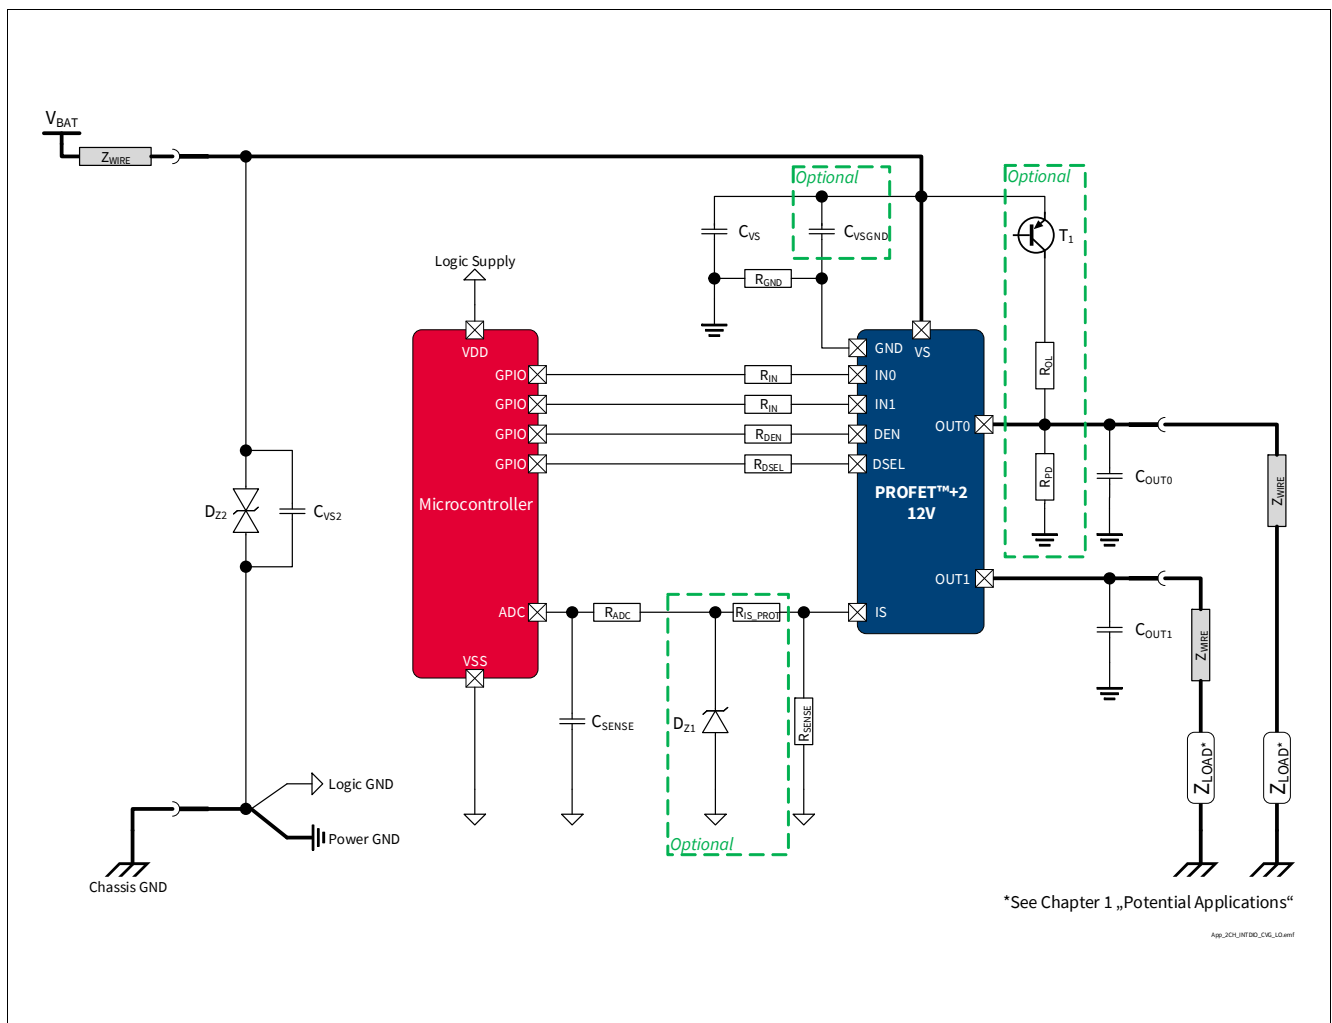

Figure 43 BTS7040-2EPA Application Diagram
1.05, 2019-10-15	P_8.7.6.1, P_8.7.6.7, P_8.7.6.8 updated (added in Note or Test Condition: link to Figure 25) P_8.7.6.6 updated (added in Note or Test Condition: link to Figure 26) P_7.5.6.4, P_7.5.6.5 updated (added in Note or Test Condition: DEN = “low”; link to Figure 19) P_7.5.6.12 updated (added in Note or Test Condition: see Figure 21 ; deleted unnecessary space in Symbol: dVOUT / dt → dVOUT / dt) P_9.7.6.1 updated (added in Note or Test Condition: See Figure 34) P_9.7.6.6 updated (Min./Typ./Max.: -40%/1800/+40% → -26.0%/1750/+26.0%) P_9.7.6.8 updated (Min./Typ./Max.: -35%/1800/+35% → -23.5%/1750/+23.5%) P_9.7.6.9 updated (Min./Typ./Max.: -30%/1800/+30% → -20.5%/1750/+20.5%) P_9.7.6.12 updated (Min./Typ./Max.: -26%/1800/+26% → -19.0%/1750/+19.0%) P_9.7.6.15 updated (Min./Typ./Max.: -11%/1800/+11% → -9.7%/1805/+9.7%) P_9.7.6.17 updated (Min./Typ./Max.: -6%/1800/+6% → -6.0%/1805/+6.0%) P_9.7.6.19 updated (Min./Typ./Max.: -5%/1800/+5% → -4.5%/1805/+4.5%) P_7.5.6.11 updated (added in Note or Test Condition: see Figure 19) Figure 1 , Figure 43 updated Chapter 1 updated (or LED equivalent → or equivalent electronic loads (e.g. LED modules)) P_4.3.0.7 added Table 24 updated Chapter 5.1 updated (added: see Chapter 10 for the complete application setup overview)